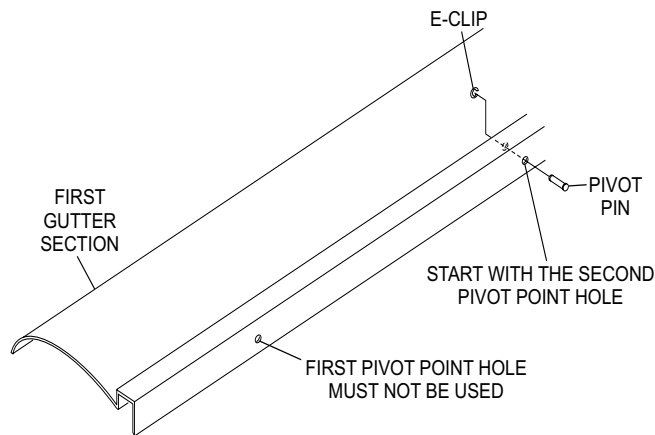

Figure 6
- Turn the gutter over and remove the first two E-clips and pins from the gutter. Set aside for reinstallation in the next step. Refer to *Figure 6*.